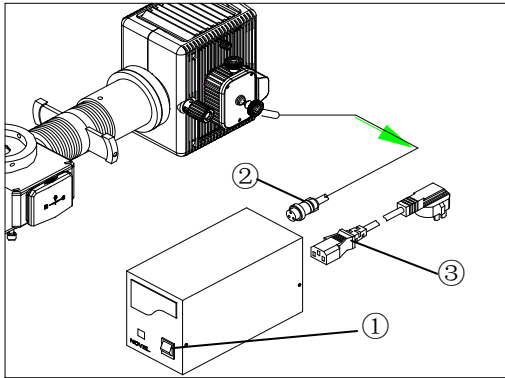

Fig.5
2.4 Cable and Cord Connections (Fig.5)